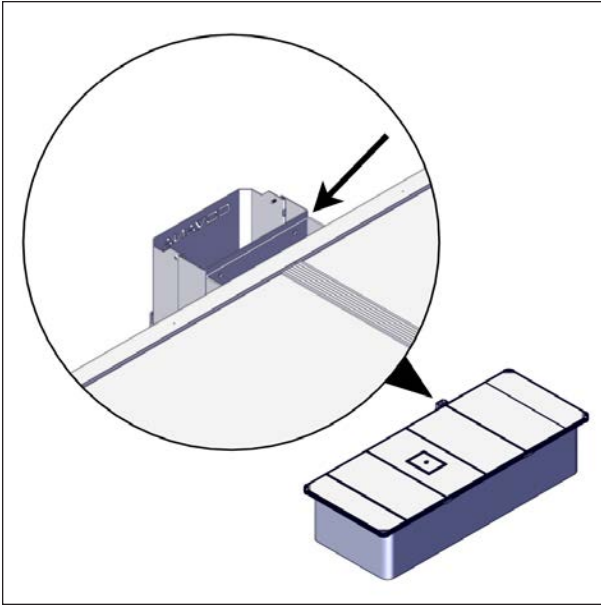

**FIGURE 63: MOUNT BRACKET ARM INSTALLATION**
3. Install the top and bottom mount bracket arms on one of the sleeves, see Figure 63.